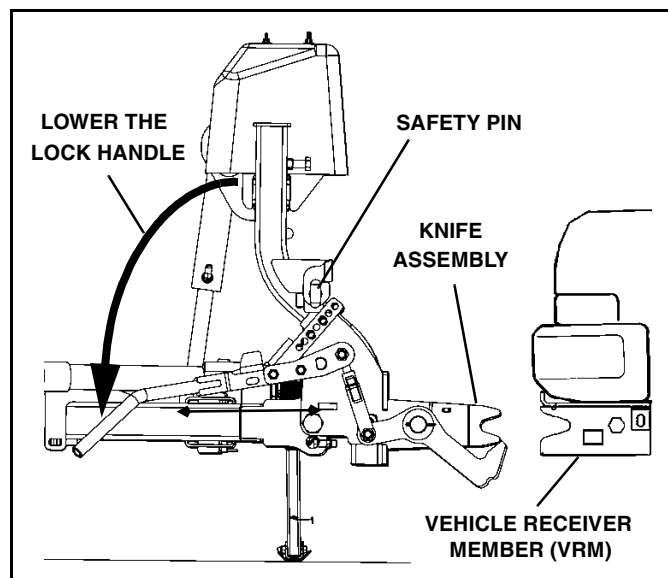

Figure 1-28
25. Release the lock handle safety pin and lower the lock handle fully. (See Figure 1-28)
27. Drive truck up to plow and engage the plow knife assembly with the VRM on the truck. (See Figure 1-28)